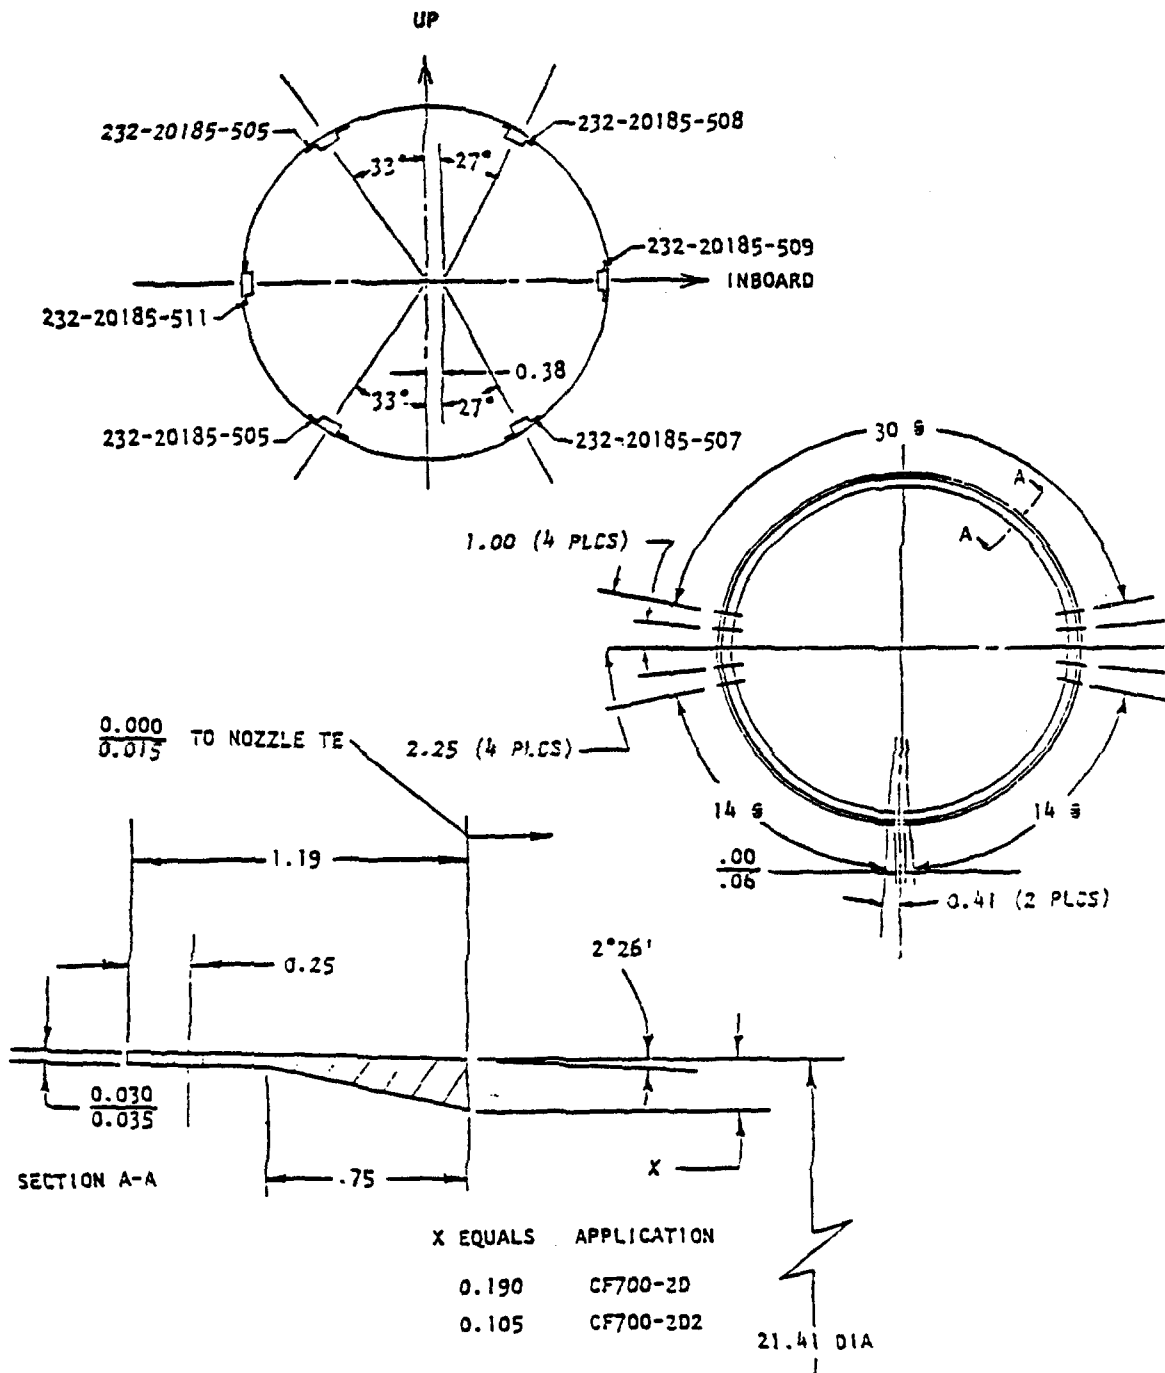

Figure 209 - Adapter Ring Installation
- (1) Deploy the reverser.
- (2) Disconnect the nacelle aft fairing (sugar scoop) per Removal/Installation instructions, Paragraph 2(3). Do not, however, remove the sugar scoop at this time.
- (3) Pull the sugar scoop rearward, as necessary, to determine the location of the 232-20185 clips with respect to the reverser tailpipe. Mark the clip locations on the reverser tailpipe in the nozzle area. AF 007M44-3 rivets are used under the clips. Rivets at clip locations are installed double flushed with external head heights not exceeding 0.012 inch. See Figure 209 for clip locations.
- (4) Pull the sugar scoop rearward to clear the reverser nozzle. Use care not to catch/bend the mounting pads on the nozzle or blocker door operating linkage.
- (5) Position the adapter in the reverser exit nozzle as shown in Figure 209. Do not trim to achieve the 0.00 to 0.06 gap at 6 o'clock at this time.
- (6) Use the adapter pilot holes to locate rivet points on the reverser nozzle and, starting at the 12 o'clock position, pilot drill, open to size, and install either AF 007M443 or -4 rivets as required. Drill, size, and install rivets in succession. Do not pilot drill the entire circumference before installing rivets.
- (7) Final trim the adapter to the 0.00 to 0.06 dimension after the upper 180 degrees of the adapter has been riveted in place. Adapter may be restrained to match contour and hold dimensions shown in Figure 209 in determining trim line location.
- (8) Reinstall the aft fairing by reversing the removal process.